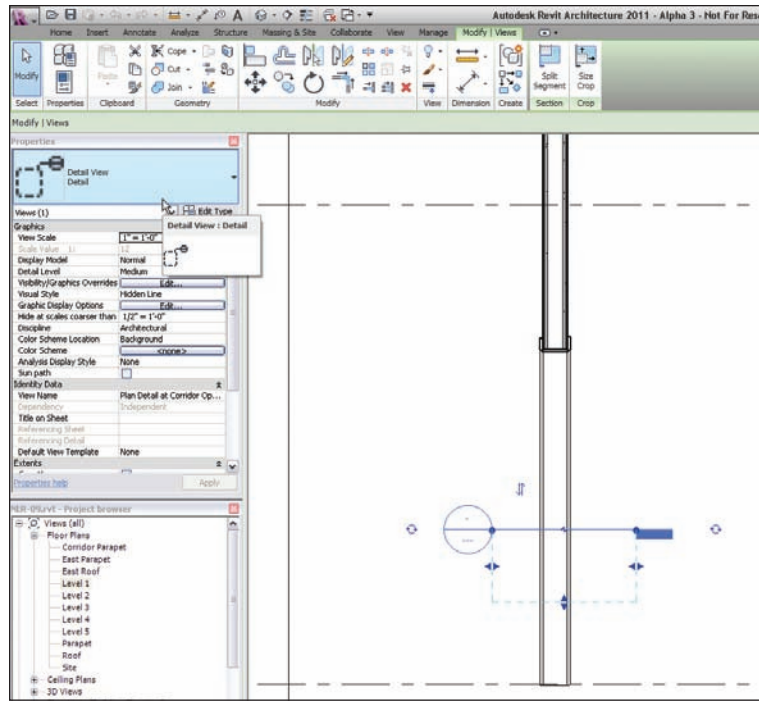

FIGURE 3.54 Creating a plan section detail
5. Place a section horizontally, as shown in Figure 3.54. Make sure the section is flipped so it is looking downward.